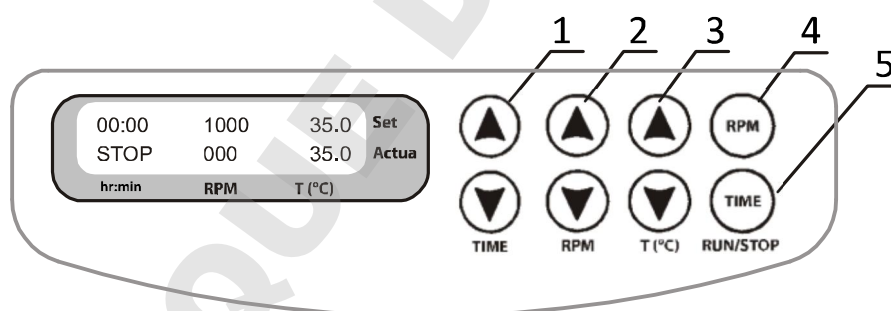
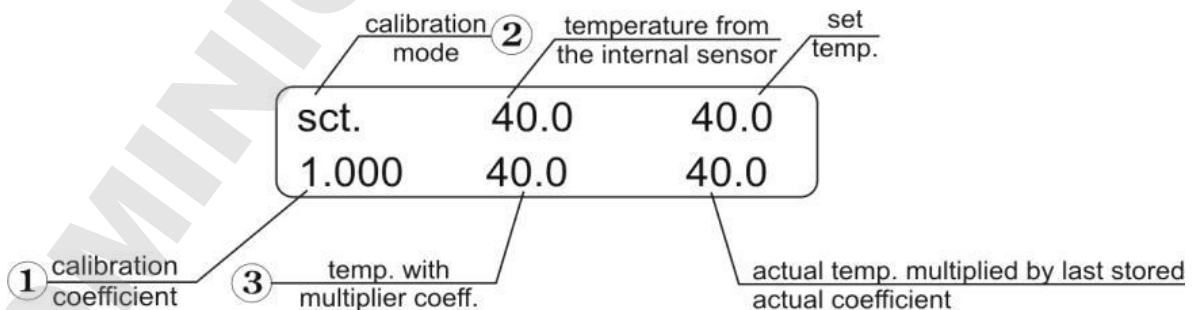

Fig.3 Control Panel
Fig.5 Control panel in calibration mode
- 4.3 With the help of “▲” and “▼” keys Fig. 3/1 set the required working time interval in hours and minutes (increment - 1 min). If the key is pressed for more than 3 seconds, the increment becomes bigger.
- 4.4 With the help of “▲” and “▼” keys Fig. 3/2 set the required speed (increment 10 RPM). If the key is pressed for more than 3 seconds, the increment becomes bigger.
- 4.5 With the help of “▲” and “▼” keys Fig. 3/3 set the necessary temperature (increment 0.1°C). If the button is pressed for more than 3 seconds, the increment becomes bigger.
- 4.7 Press the RPM-RUN/STOP key Fig. 3/4 the block will start rotation and the timer indicator will start counting up the time interval (with 1 min precision).
- 4.10 If required, it is possible to restart the timer when it is running. Press the **TIME-RUN/STOP** key once Fig. 3/5 to stop the timer. Press the **TIME-RUN/STOP** key again to restart the timer.
- 5.2. To enter the calibration coefficient, hold the **TIME-RUN/STOP** key (Fig. 3/5) for more than 8 sec to activate calibration mode. The calibration coefficient will be shown on the display (Fig. 5/1).
- 5.3. Set 1.000 value using the ▲ and ▼ keys (Fig. 3/3) as shown on Fig. 5/1 to restore the factory settings.
- 5.9. Hold down the **TIME-RUN/STOP** key (Fig. 3/5) for more than 8 sec. to activate calibration mode. The following parameters will be shown on the display (Fig. 5):
Using the **Temp.** ▲ and ▼ keys (Fig.3/3), change the calibration coefficient (Fig.6A/1) so, that the new temperature value (Fig.6A/2) corresponds to the independent temperature sensor. In our example the calibration coefficient will be 0.974 (in range: 0.936 up to 1.063; increment 0.001).
5.11. After finishing the calibration press the **RPM-RUN/STOP** key (Fig.3/4) once to save the changes and exit the calibration mode.